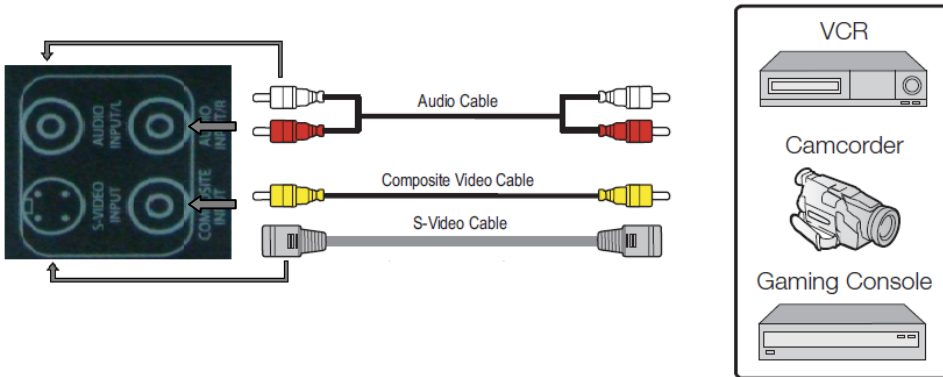

Figure 3-4. Composite and S-Video Connections
Composite/S-Video Connections: The Climate Series LCD has one (1) Composite video input and an S-Video input for connecting a VCR, camcorder, laser disc player or DVD player; see Figure 3-4.